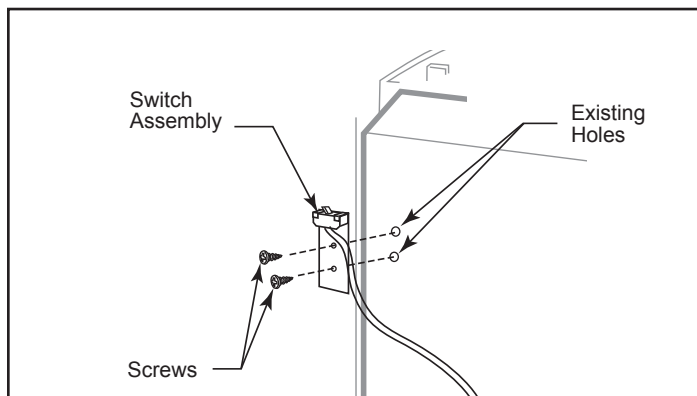

Figure 3.31 - Attach switch assembly to rear shroud.
1. Attach switch assembly to left rear side of stove shroud (when facing shroud) using two screws and existing holes in shroud. (Figure 3.31)